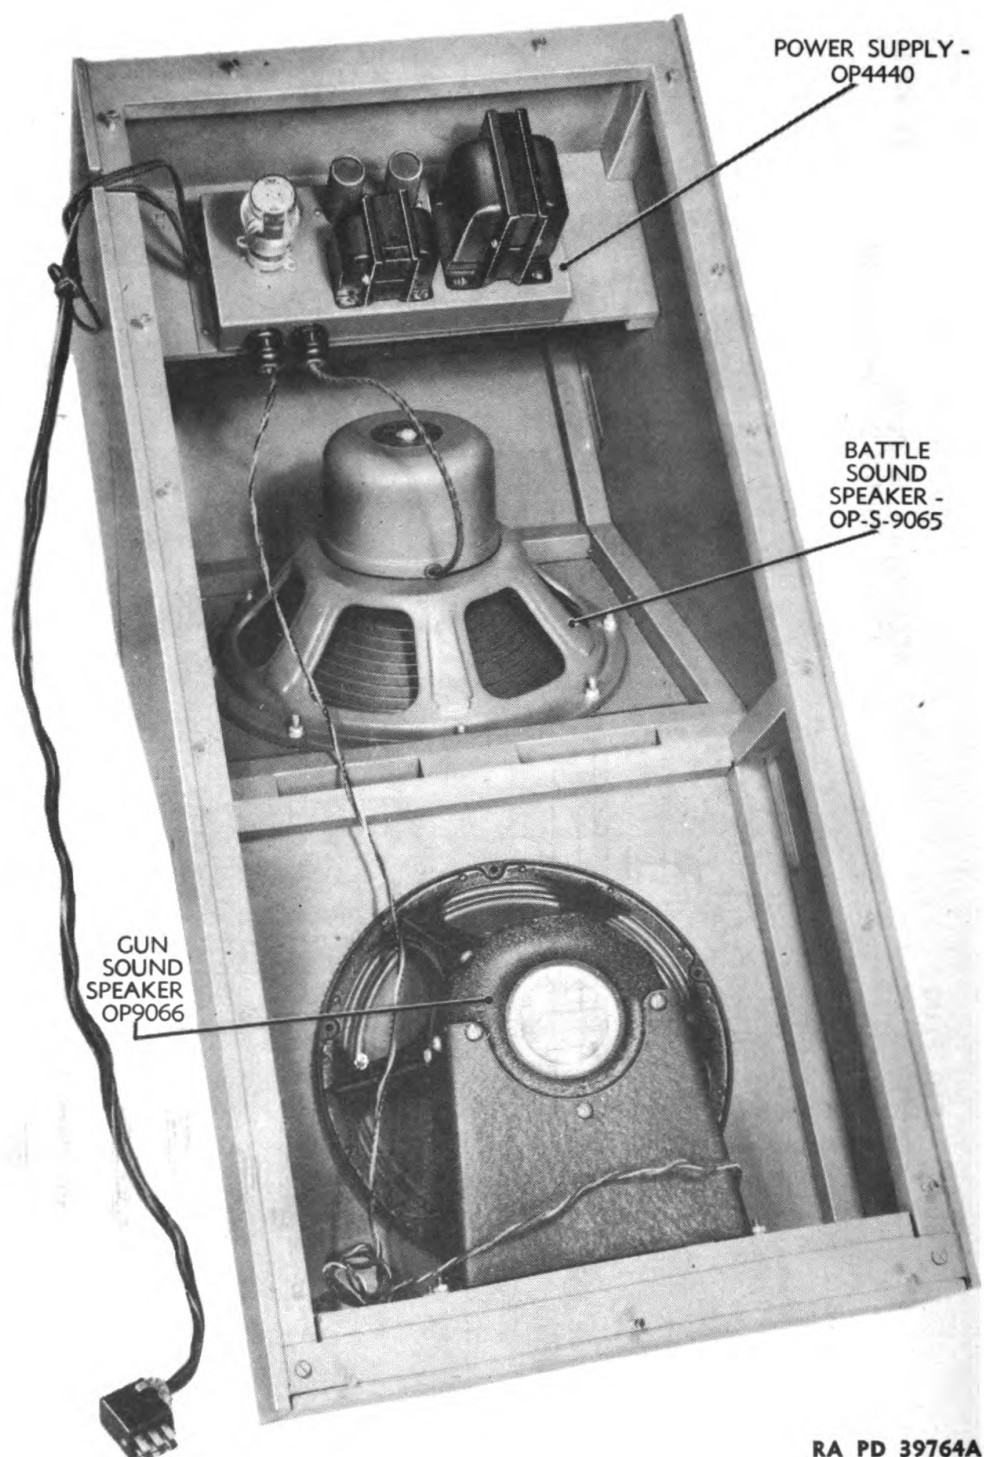
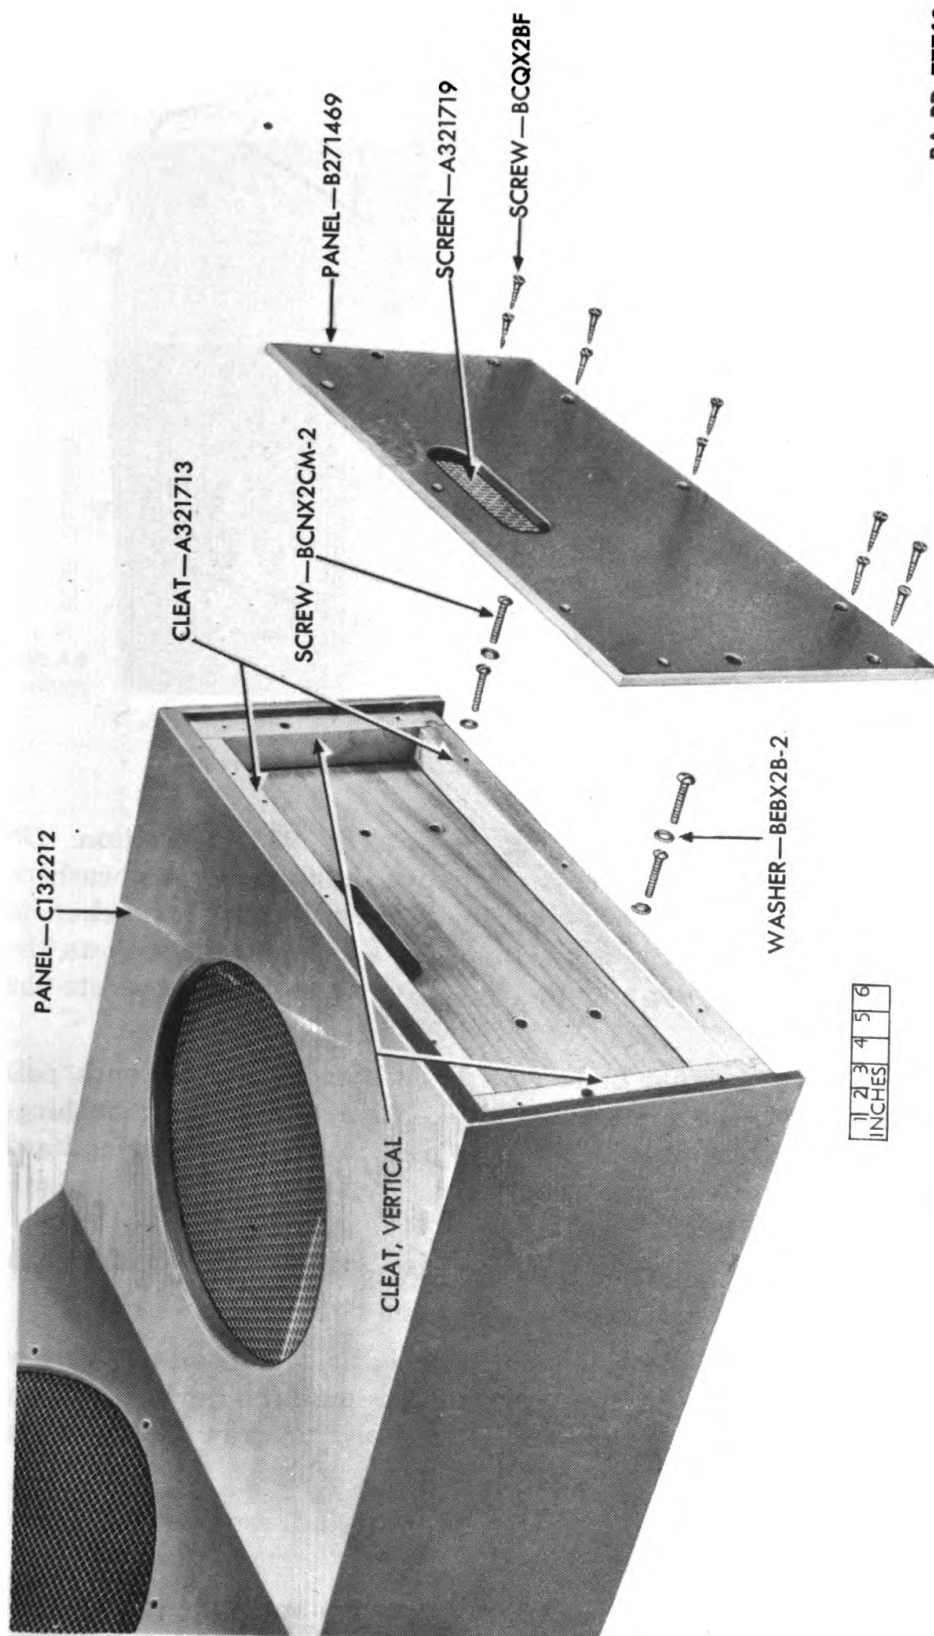
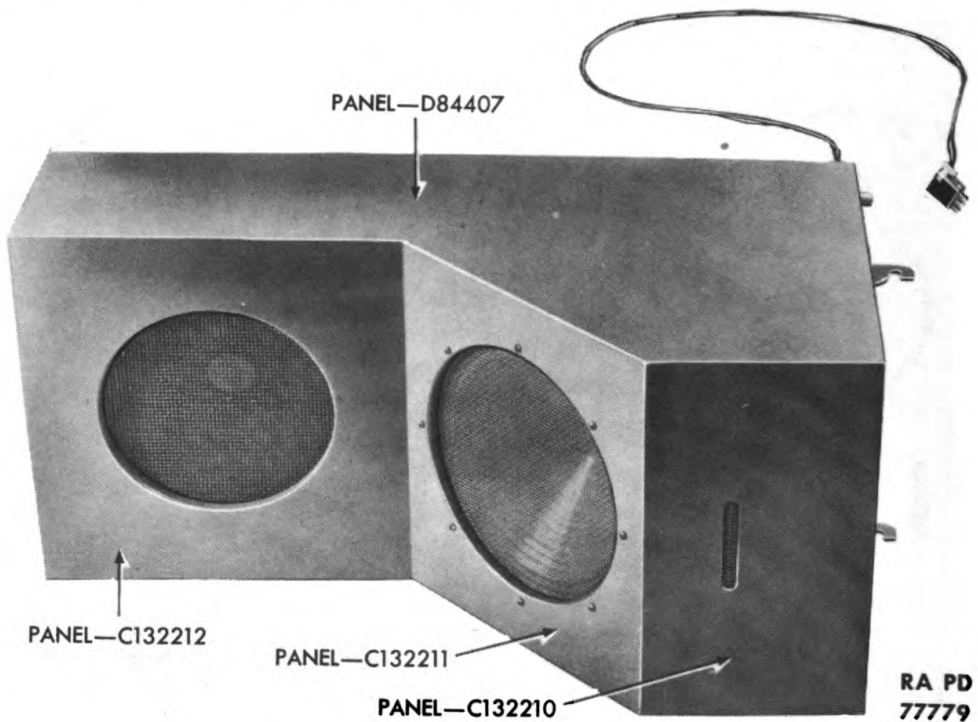

Figure 87 — Interior of Speaker Cabinet — Top View
Figure 88 — Removal of Front Panel From Speaker Cabinet
Figure 89 — Speaker Cabinet — Bottom View
(2) Remove the wood screws holding the top panels on the speaker cabinet (fig. 87). Remove the 10 wood screws (fig. 88) holding the end panel in place. Remove the panels.
(3) Pull the two speaker plugs from their respective sockets in the power supply unit.
(4) Remove the battle sound speaker by unscrewing the eight screws (with nuts and washers) holding the speaker in place (fig. 89).